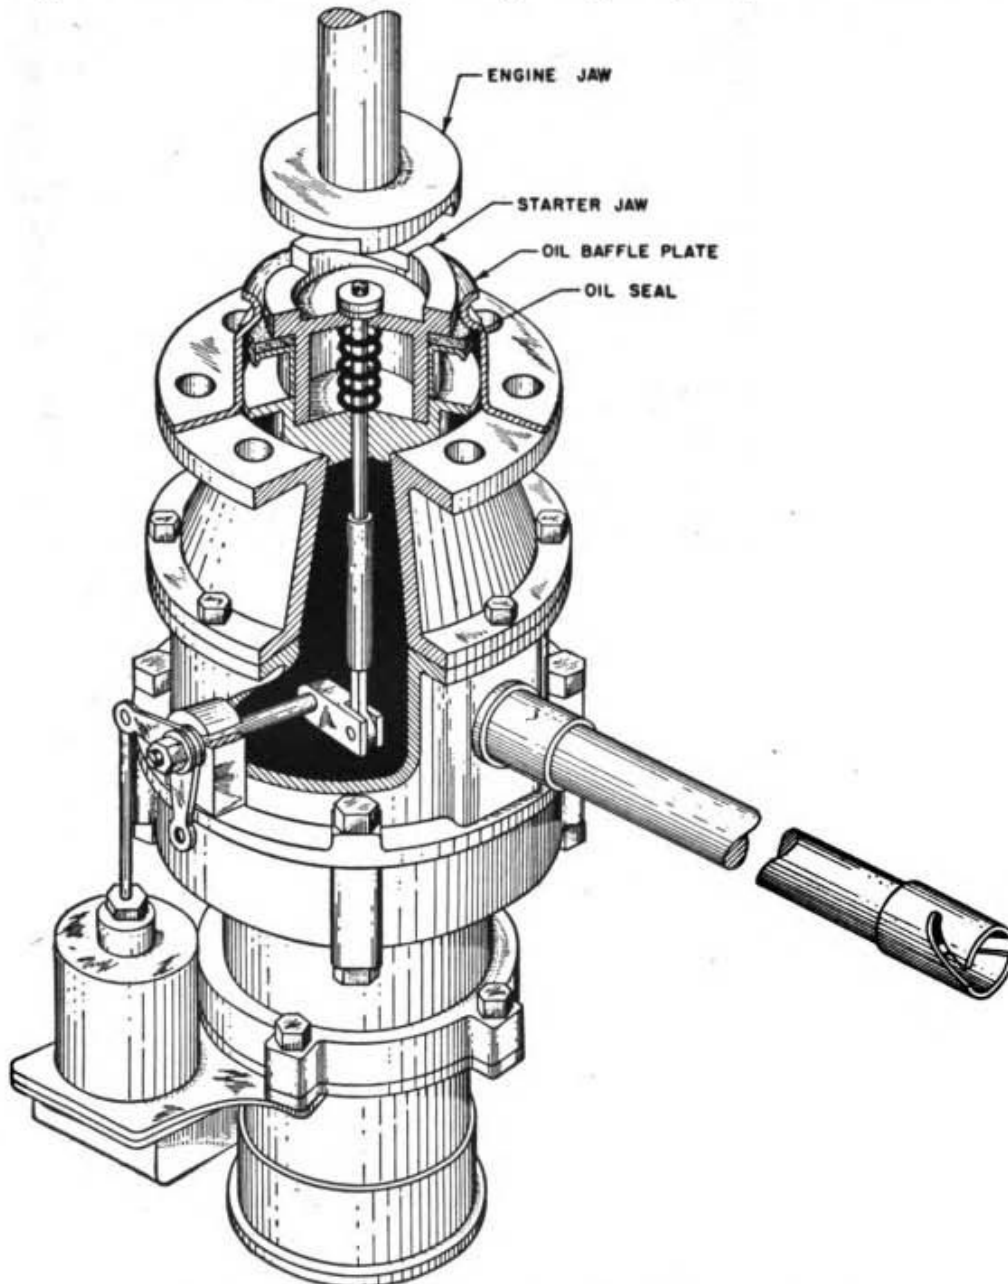

Figure 67. Starter jaw retracted against the oil seal.
(2) **STARTER SOLENOIDS AND SWITCHES.** Check all solenoids for security of mounting and condition of the leads. When adjusting the starter solenoids, first make certain that the starter jaw is completely retracted against the baffle plate; then with the oil seal and solenoid plunger in the outermost position (see fig. 67) adjust the cable so that